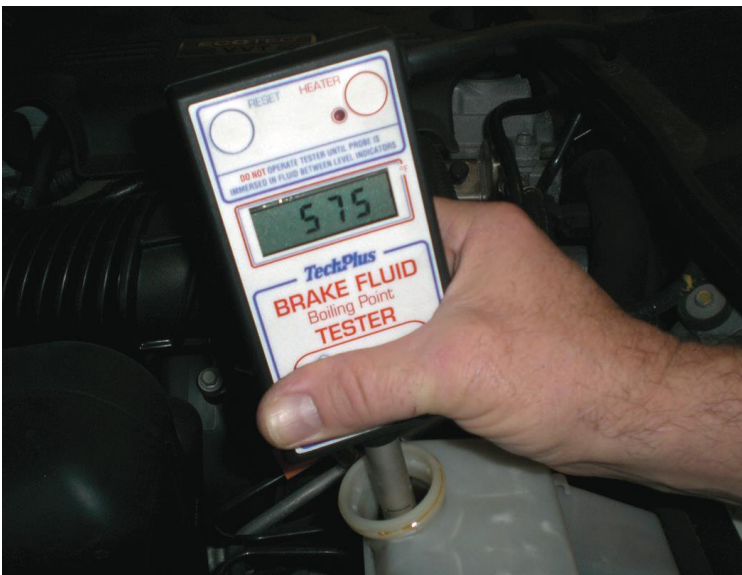

Figure 26. An electronic tester that measures the boiling temperature of the brake fluid is useful to help determine if the brake fluid needs to be replaced.
- Boiling point tester. An electronic tester can be used to measure the actual boiling temperature of the brake fluid. Figure 26.